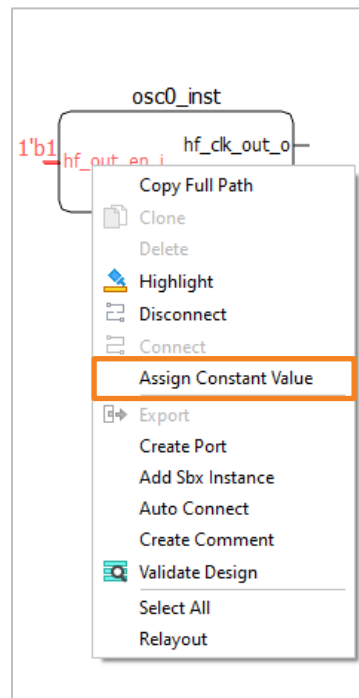

Figure 2.95. Right-click Menu of an Input Pin
1. Select the desired pin and right-click the pin. Choose **Assign Constant Value** (Figure 2.95).